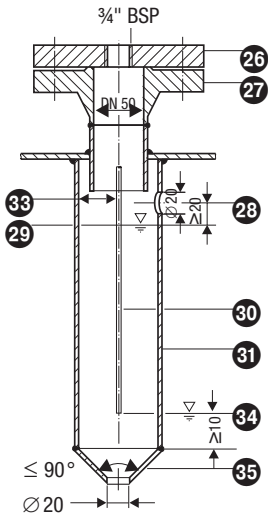

Fig. 15
- One level electrode NRG 1...-11 can be installed together with one GESTRA level electrode, one level switch or transmitter for water level control and high level alarm in one single protection tube or level pot (inside diameter 100 mm). **Fig. 15**. If the NRG 1...-11 is installed inside the vessel, it must be at least 40 mm away from the upper vent hole.